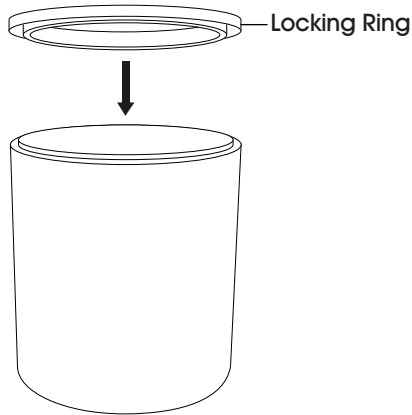

Figure 4
5. Align locking ring evenly over can lid and secure by applying even pressure with a paint can closer. Make sure ring snaps into place. (See Figure 4)